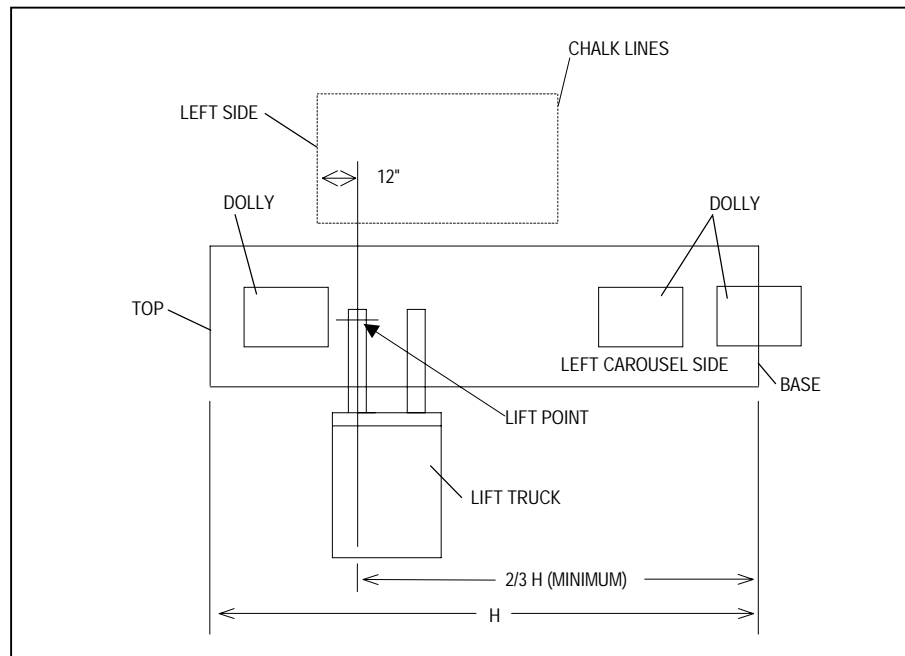

Figure 9. POSITIONING SIDE FOR LIFTING
1. Move the left side assembly to the front of the chalked layout lines. Orient the side with the leveling feet on the right and the motor towards the front (see Figure 9).